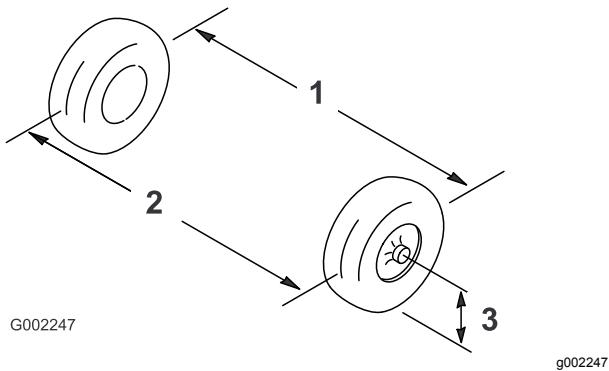

Figure 90
2. Measure the distance between both of the front tires at the axle height at both the front and rear of the front tires (Figure 90).